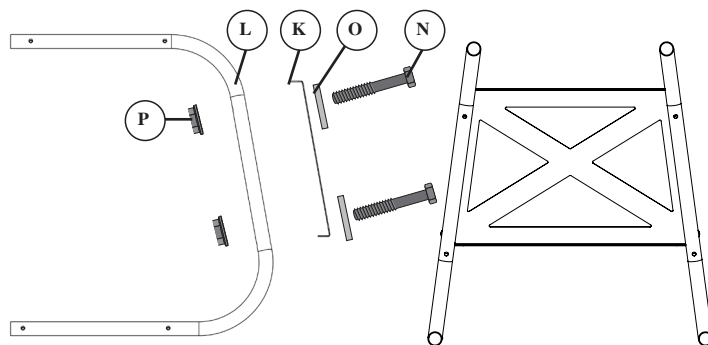

FIG. 2
- 2 Secure the Back Brace (K) to each Leg (L) using four 5/16" x 2" Hex Head Bolts (N), four 5/16" Flat Washers (O) and four 5/16" Whiz-Lock Nuts (P) [FIG. 2].